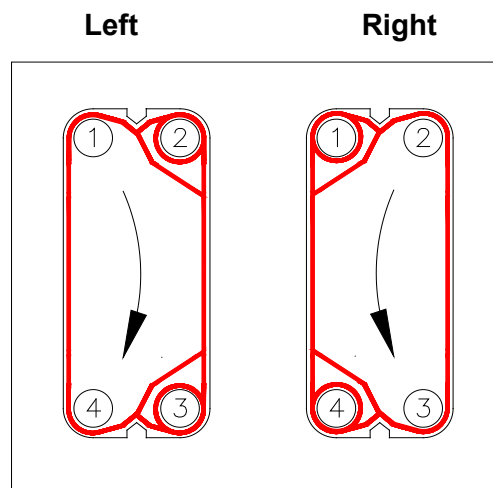

Figure 3: Left and right plate
- On the right plates, the fluid runs from the connection 2 to 3 or vice versa from 3 to 2 (Figure 3).
- The flow on the left plates goes from 1 to 4 or from 4 to 1 (Figure 3).